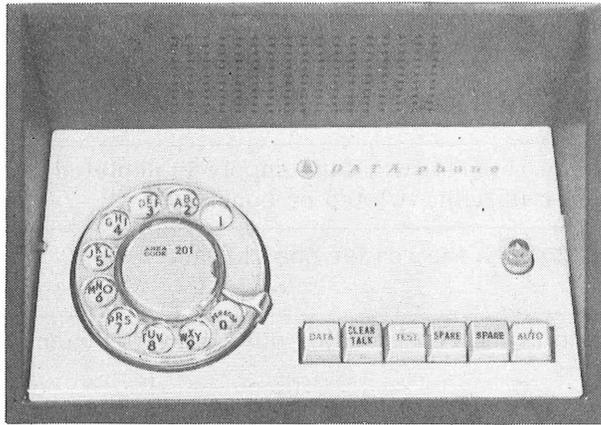

Figure 6 - Attendant Set (Rotary Dialer)
3.03 The controls necessary for operating the 37 ASR TTY station are located on the control panel above the keyboard (Figure 5 and Table B), the tape module panel (Figure 2 and Table C), and the attendant set (Figure 6 and Table D).
CONTROL (Refer to Figure 6)	FUNCTION